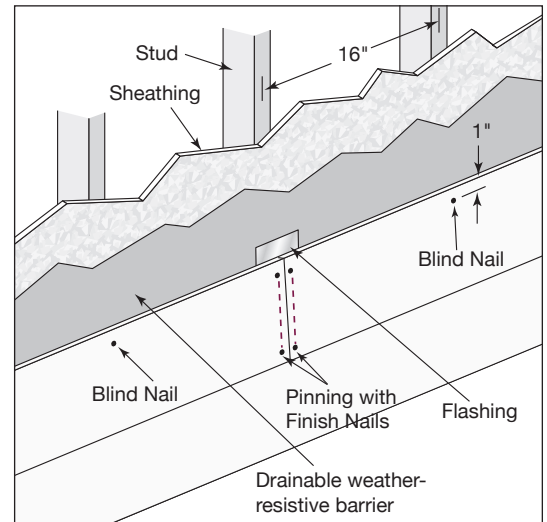

Fig. 36
- Always stagger butt joints over stud locations (**Fig. 36**)